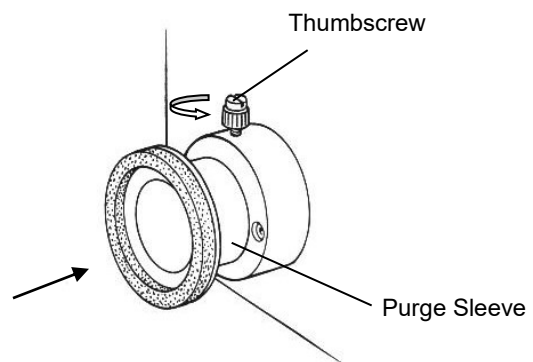

Figure 2 • Purge Sleeve
Loosen the thumbscrews and push the purge sleeves in to retract them (Figure 2).
- Extend the purge sleeves (Figure 2) by sliding them until they firmly contact the sides of the sample compartment.
- Tighten the thumbscrews (Figure 2) to keep the purge sleeves in place.